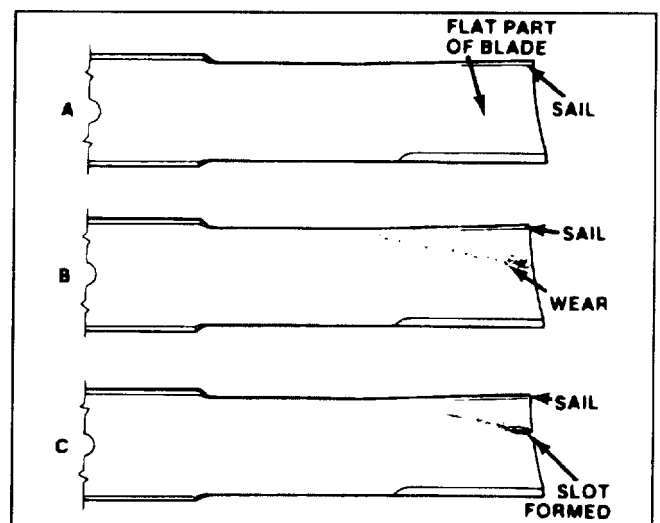

Figure 74
INSPECTING AND SHARPENING BLADE (Fig. 74)
(Fig. 74)
- Examine cutting ends of the blade carefully, especially where the flat and curved parts of the blade meet (Fig. 74-A). Since sand and abrasive material can wear away the metal that connects the flat and curved parts of the blade, check the blade before using the machine. If wear is noticed (Fig. 74-B), replace the blade: refer to Removing Cutter Blade, page 37.